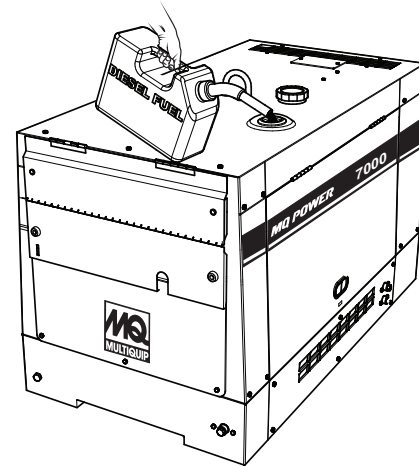

Figure 17. Adding Fuel
2. If fuel is low, remove the fuel cap (Figure 17) located on top of the generator and replenish with clean #2 diesel fuel.